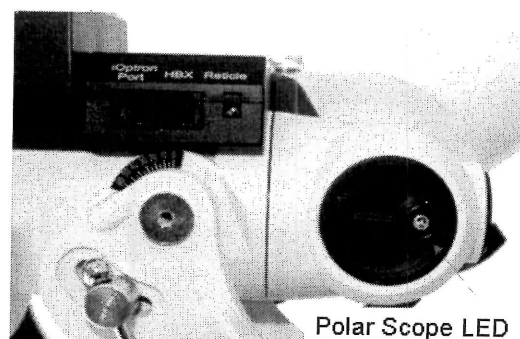

Figure 19. Polar Scope LED
- (1) Level the CEM25 mount. Make sure the telescope is parallel to the pole axis (R.A. axis) of the mount. If a finder scope is used, adjust it to be parallel to the telescope optical axis. You may check the parallelness during daytime with a distance object.
- (2) Take off the Polar Axis Cover and Polar Scope Cover. Connect polar scope LED cable between Reticle plug located on the main unit and the LED socket at the bottom of the DEC axle, as shown in Figure 19. Turn on the mount power by pressing the **On/Off** switch on the main unit. The light intensity can be adjusted using the HC via **MENU=>"Settings"=>"Set Eyepiece Light"** function under **"Set Up Controller"** menu.